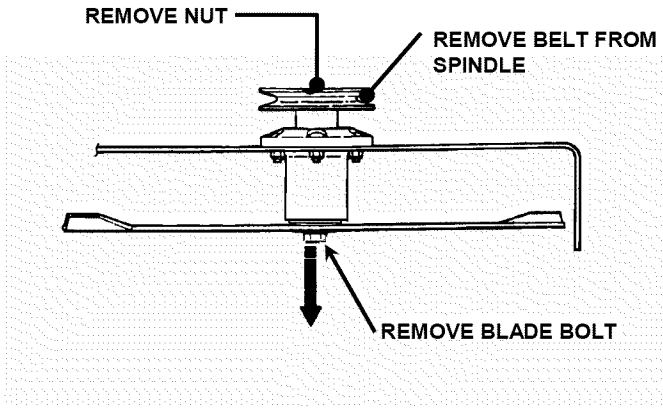

FIGURE 4.38
1. Remove belt. Loosen blade nut and remove. Allow blade bolt, blade washer, blade, and dust shield to drop down out of the spindle housing. See Figure 4.38.